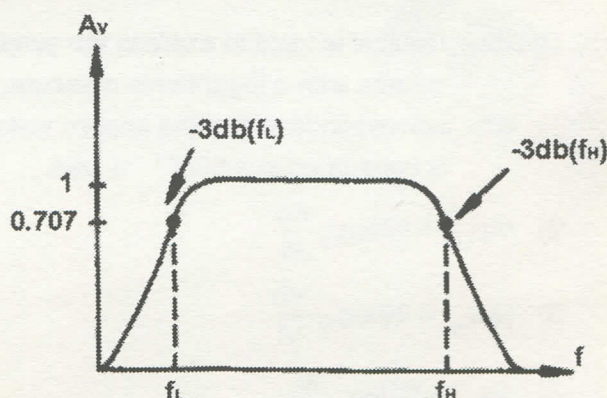

Fig 3
- (1) While the gain of the amplifier is typically used the medium frequency range as reference, the values of gain in low frequency or high frequency will decrease. Low frequency, for example of RC coupling, will be affected by coupling capacitor (because $X_c = 1/2\pi fc$, $f \downarrow$, $X_c \uparrow$); the amplification will be affected by the input capacitance and distribution capacitance of the transistors in parallel with the load so that $f \uparrow$, $X_c \downarrow$ and the gain will decrease. This frequency response is illustrated in Fig 3.